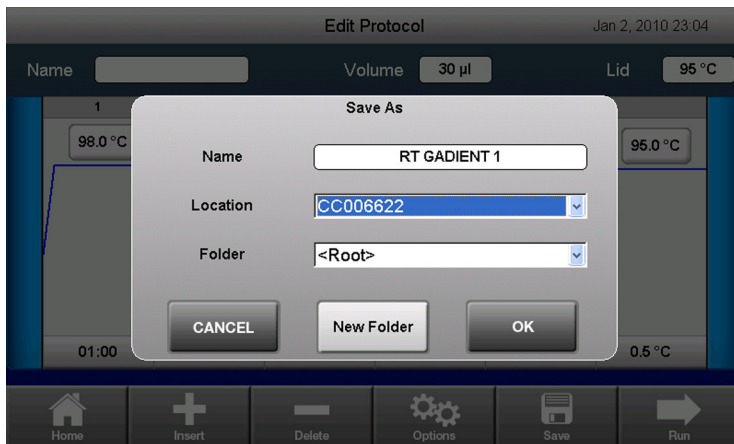

Figure 40. Save As window.
- Once a protocol has been created, you have the option to save it. Touching the **Save** button will display the **Save As** window in which the Name can be entered, and the Location and Folder specified (Figure 40). Touch **OK** to save.